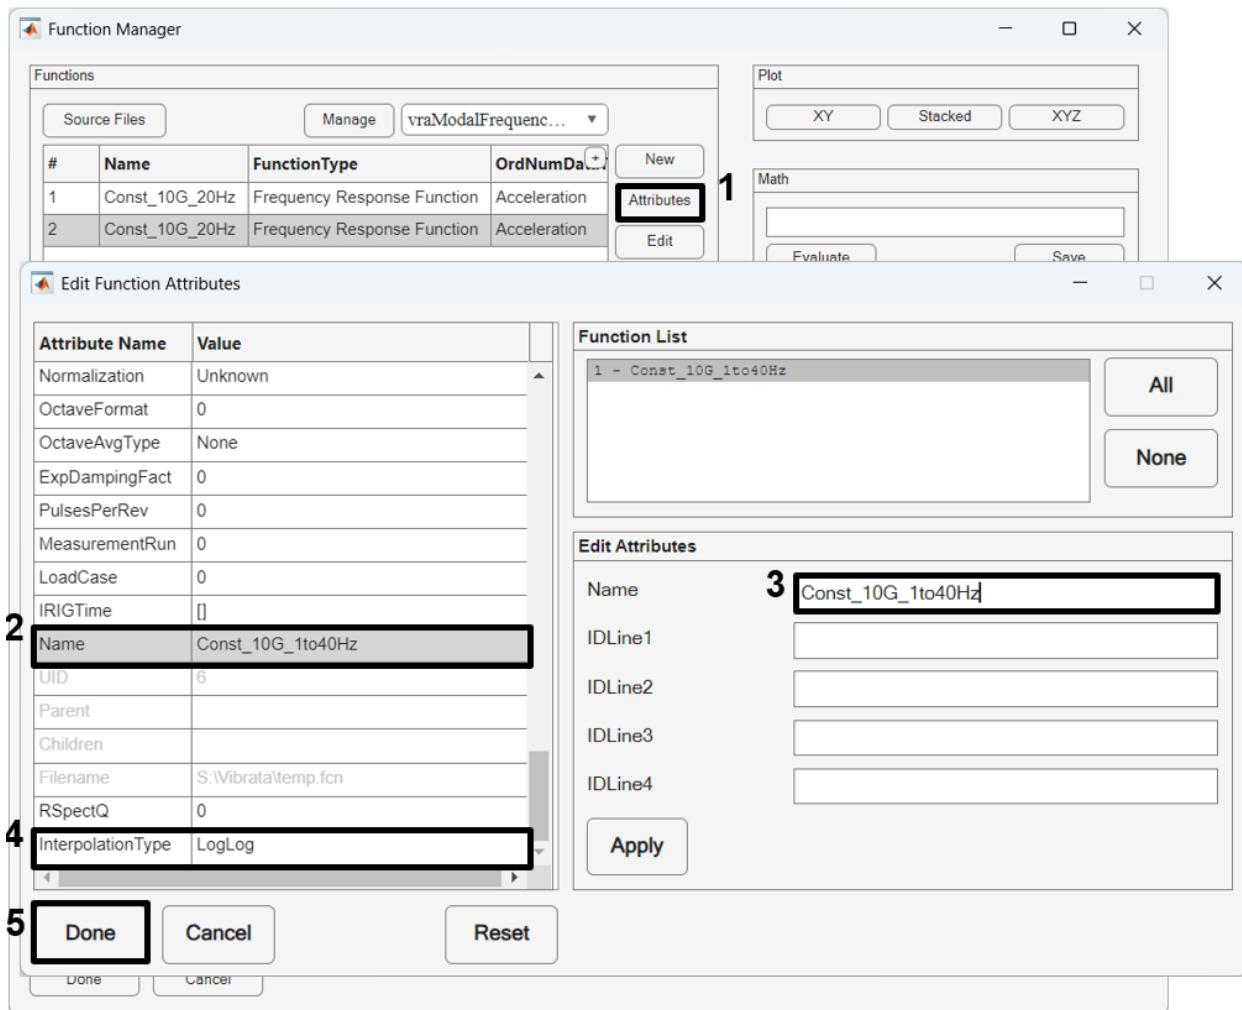

Figure 4-29. Edit the new function's name and make it use log-log interpolation.
- With the new function still selected, click the **Attributes** button to open the *Edit Function Attributes* dialog; change the interpolation method to *LogLog* and its name to "Const_10g_1to40Hz" (Figure 4-29). Click **Done** to close the dialog and save the changes.